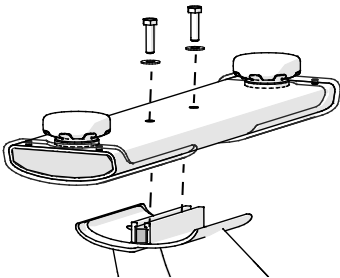

Figure 3
- Attach the rear stabilizer to the frame using two bolts 1 and two flat washers 2 (Figure 3).